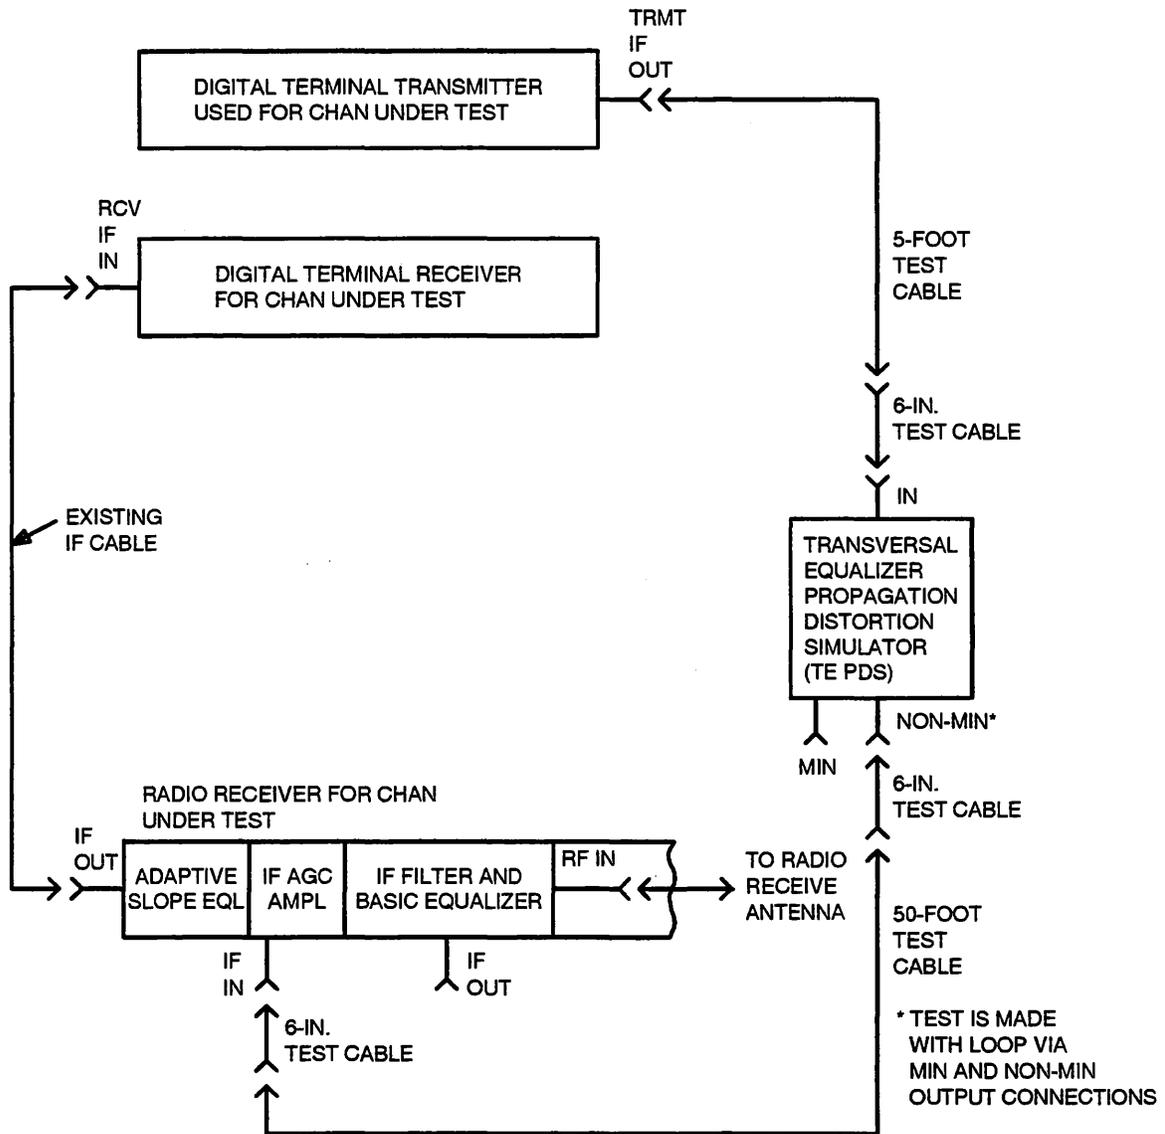

Figure 6-IF Loopback TE Performance Check Connections
3. Establish the test connections shown in Figure 6.